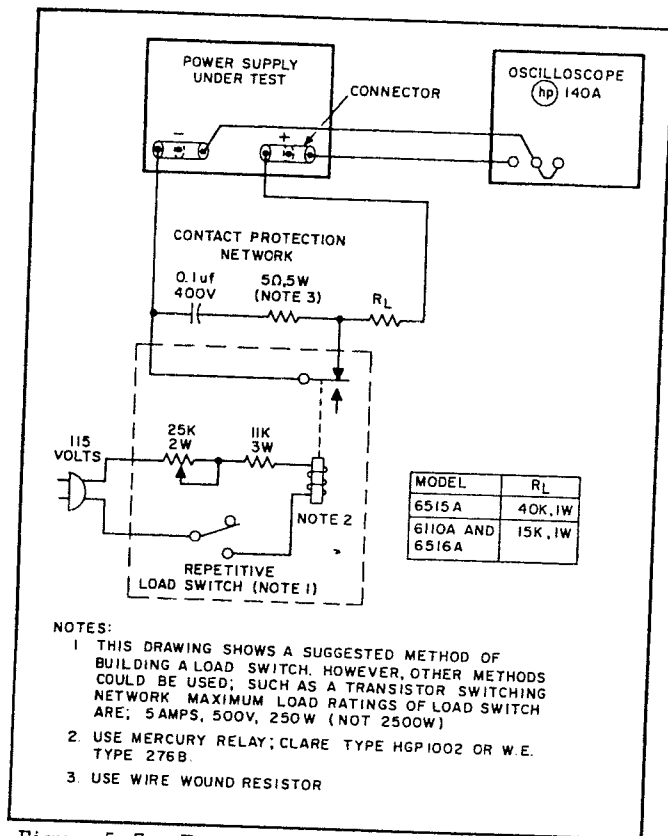

Figure 5-7. Transient Recovery Time, Test Setup
A mercury-wetted relay, as connected in the load switching circuit of Figure 5-7 should be used for loading and unloading the supply. When this load switch is connected to a 60 Hz AC input, the mercury-wetted relay will open and close 60 times per second. Adjustment of the 25K control permits adjustment of the duty cycle of the load current switching and reduction in jitter of the oscilloscope display.
- a. Connect test setup as shown in Figure 5-7.